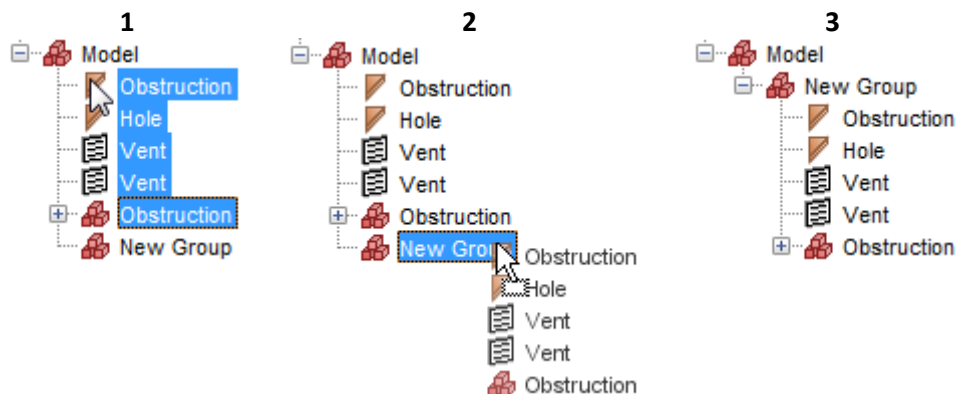
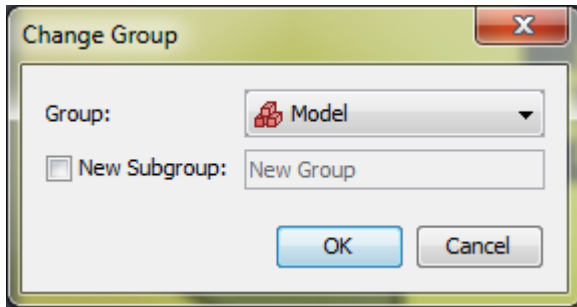

Figure 7.8. Dragging objects to a new group in the Navigation View
Figure 7.9. The Change Group dialog
- For **existing objects**, in the **Navigation View**, select the objects and drag them into the desired group as shown in Figure 7.8. Alternatively, right click them in any view and select **Change Group....** In the **Change Group** dialog shown in Figure 7.9, select the desired group. If a new group is desired, select **New Subgroup** and specify a name. If this is chosen, a new group will be created under the specified existing group, and the selected objects will be moved to this new group.